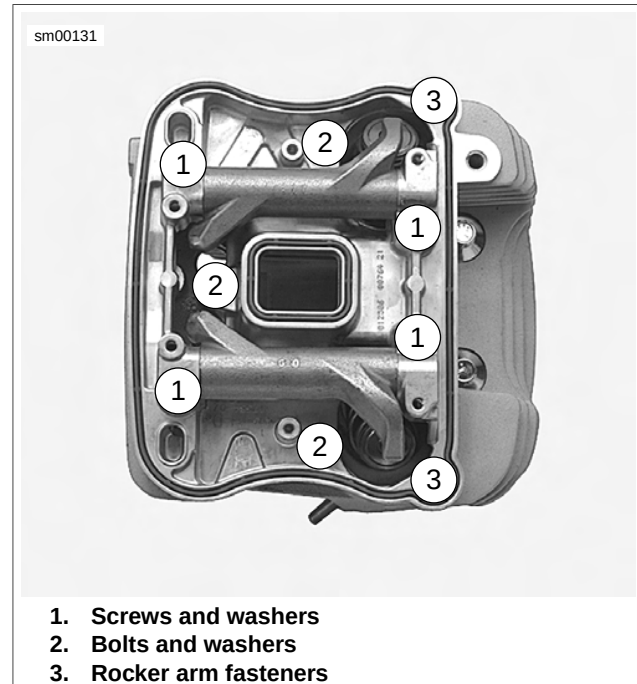
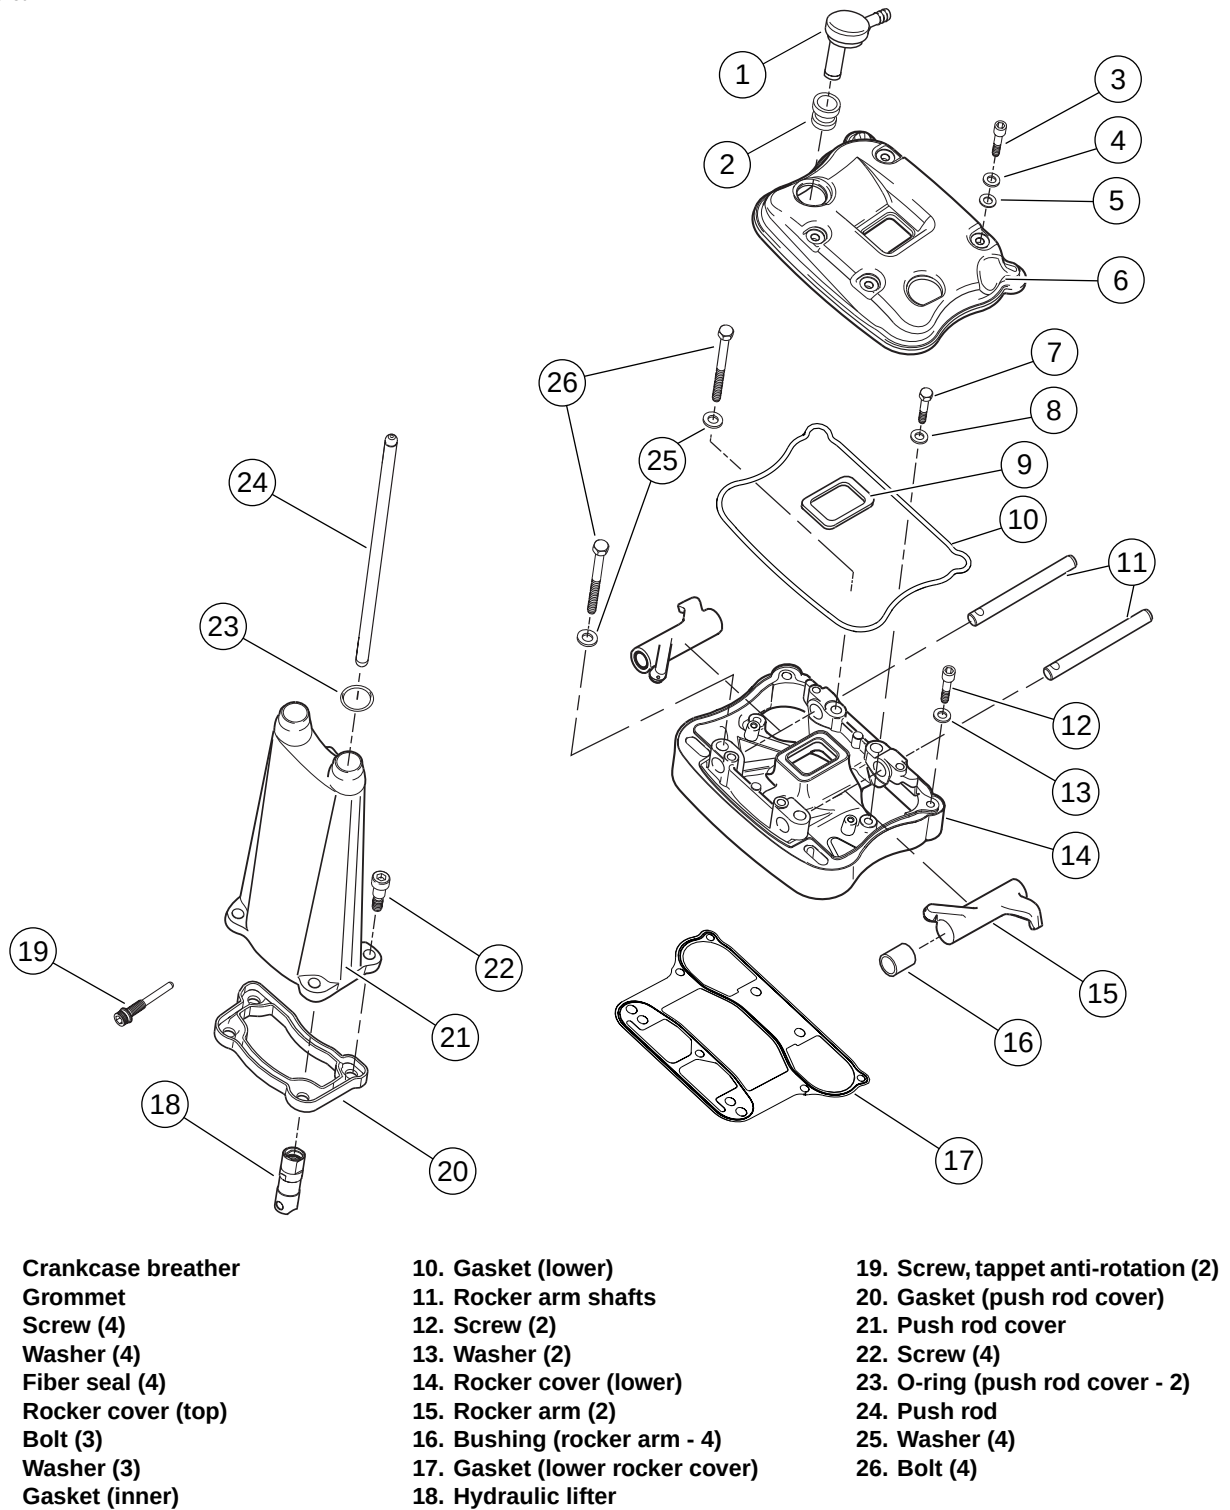

Figure 3-43. Lower Rocker Box Fasteners
Figure 3-45. Rocker Arm and Pushrod Cover Assemblies
2. See Figure 3-45. Remove screws (3) with washers (4) and fiber cover seals (5). Discard fiber seals.
3. Remove top rocker covers (6).
6. See Figure 3-43. Remove hardware holding lower rocker cover to cylinder head in the following order.
- a. Remove two screws and washers (3).
- b. Remove three bolts and washers (2).
- c. Loosen the four rocker arm fasteners (1) in 1/4-1/2 turn increments using a cross pattern in order to relieve valve spring pressure on the lower rocker box.
7. See Figure 3-45. Remove lower rocker cover (14).
3. See Figure 3-45. Remove push rod cover (21), gasket (20) and lifters (18).